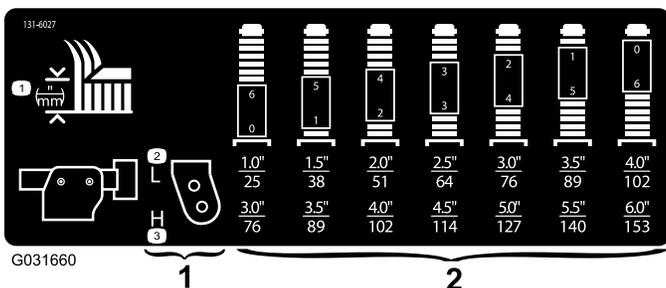

Figure 18
3. Position the caster-wheel axles in the same holes in all of the caster forks; refer to the chart (Figure 18) to determine the correct holes for the setting.
**Note:** Refer to the chart to determine the combinations of spacers for the setting (Figure 18).